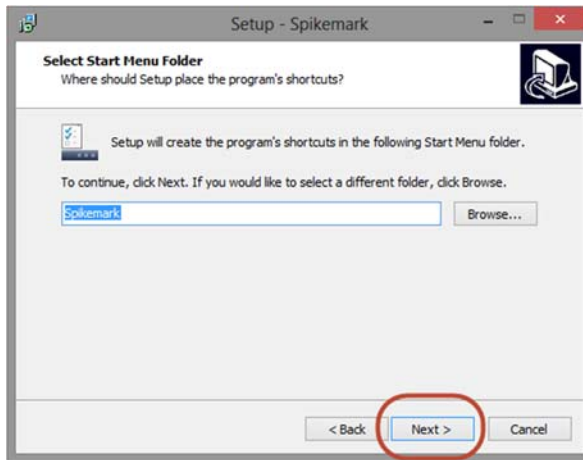

Figure 5
7. The **Select Start Menu Folder** window launches. Click **Next**. (Figure 5)